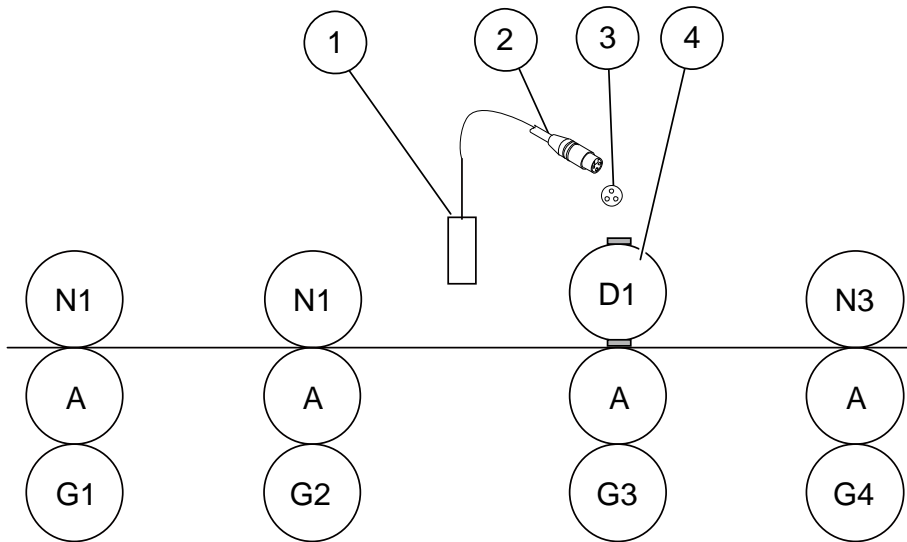

Figure 7-82 Install color mark sensor
(1) Color mark sensor (2) Cable plug (3) Socket (4) Die cutter
Step 1: Install color mark sensor (1) to the position shown in Figure 7-82;
Step 2: Connect cable plug (2) with socket (3) above cutter G3.